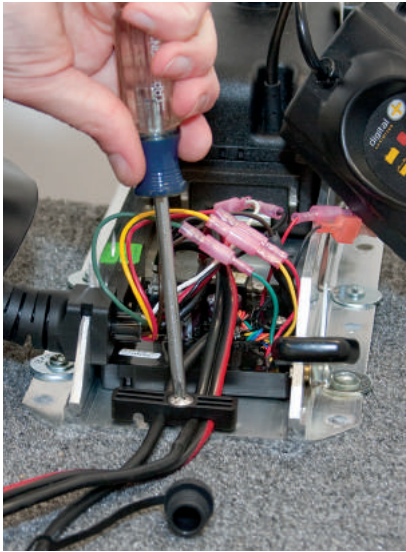

FIGURE 29
16. Loosen the cable strain relief that is secured to the base of the motor and install the i-Pilot Link controller steering cable into the open strain relief slot. (Figure 29)